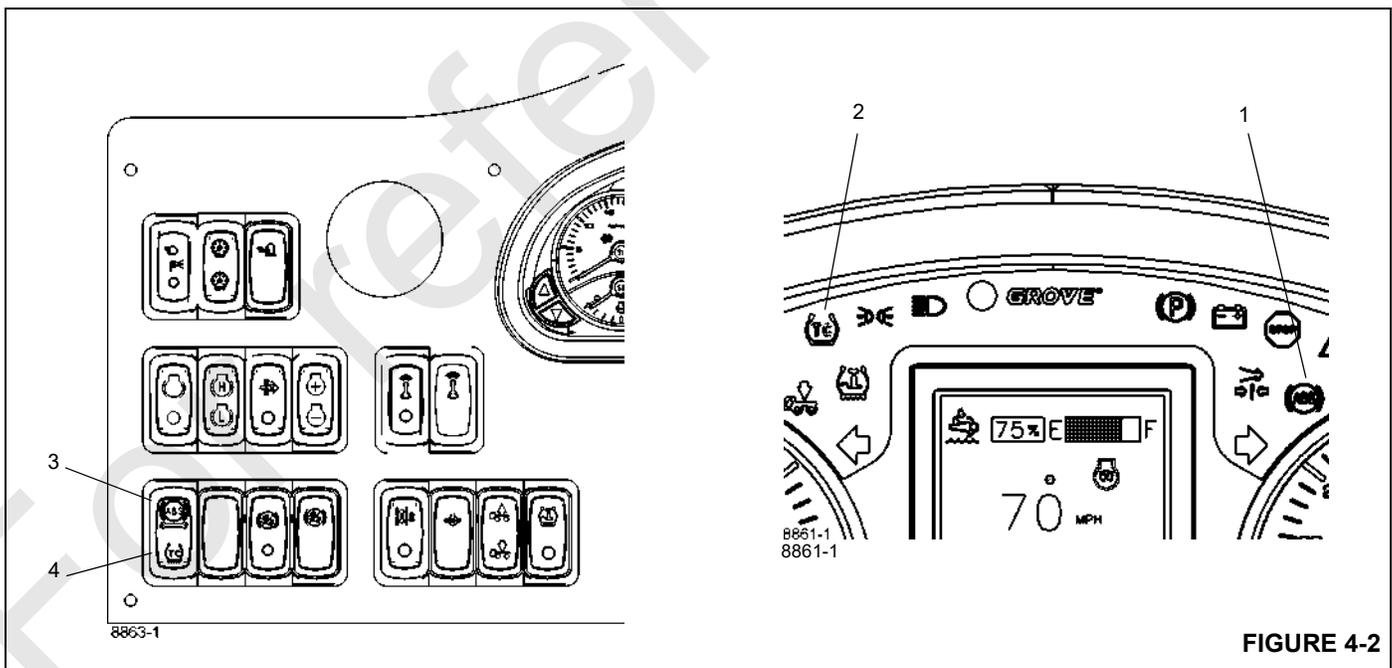

FIGURE 4-2
When ignition power is applied, the ECU will illuminate the ABS indicator lamp (1), (Figure 4-2) for approximately three seconds, after which the lamp will extinguish if no diagnostic trouble codes are detected.
The ABS/Traction Control switch (3), (Figure 4-2) is used to diagnose system problems along with blink codes displayed on the ABS indicator, see the *Service Manual* for more information.
- The ATC switch (4), (Figure 4-2) allows greater wheel spin (more torque) when activated. It is intended for adverse conditions, usually off-highway. The switch turns on ATC when pushed once and off when pushed a second time and whenever the system goes through a power-up cycle.
The ATC Indicator (2), (Figure 4-2) will flash rapidly when ATC is operating.
The ECU will illuminate the Automatic Traction Control (ATC) lamp (2), (Figure 4-2) for approximately 2.5 seconds when
To activate ATC off-road mode, push the bottom of the ABS/Traction Control Switch (4), (Figure 4-2) once. When the ECU is placed in the ATC off-road mode, the ATC indicator lamp will flash slowly at a rate of 1.0 seconds ON, 1.5 seconds OFF to notify the vehicle operator that the off-road mode is active.